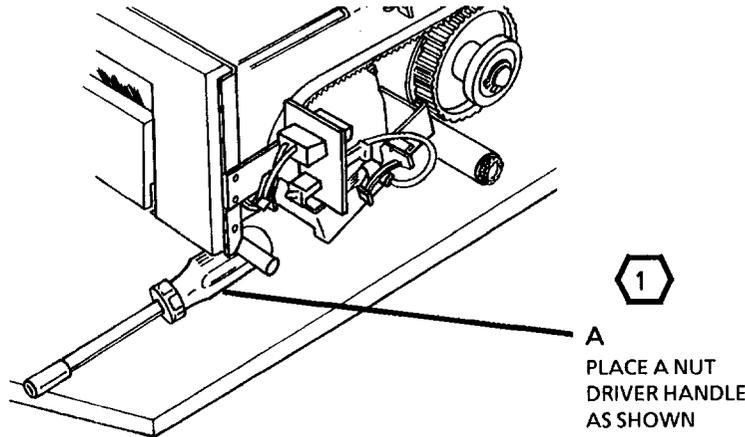

Figure 1. Position of Nut Driver
2. (FIGURE 1): PHOTORECEPTOR 3 POINT STAND.